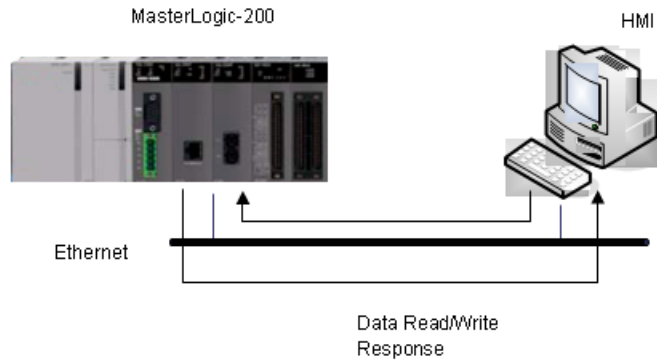

Figure 56 – An example of Ethernet (server) driver application
2. Figure 56 – An example of Ethernet (server) driver application